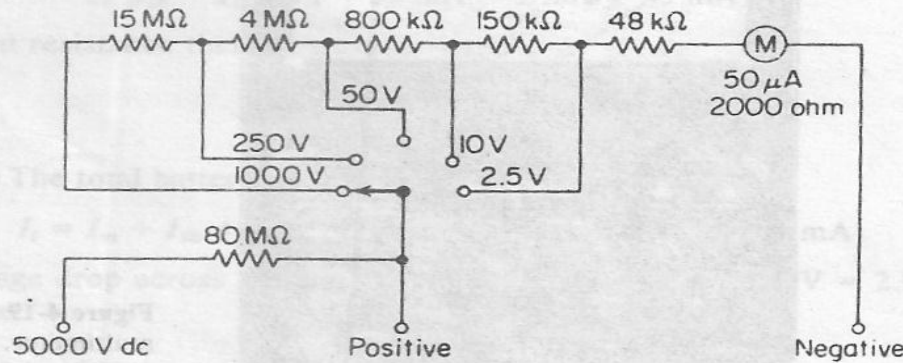

Figure 4-21 Dc voltmeter section of the Simpson Model 260 multimeter. (Courtesy of Simpson Electric Company.)
- Figure 4-21 shows the circuit for the dc voltmeter section, where the common input terminals are used for voltage ranges of 0-1.5 to 0-1,000 V.